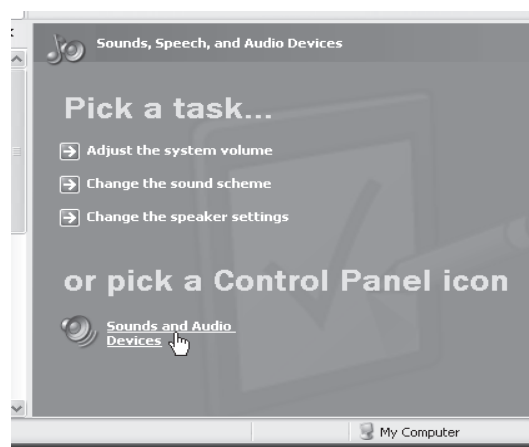

Figure 5
4. If the icon is not there, the volume can be changed by going to Control Panel and opening Sounds and Audio Devices (figure 5).